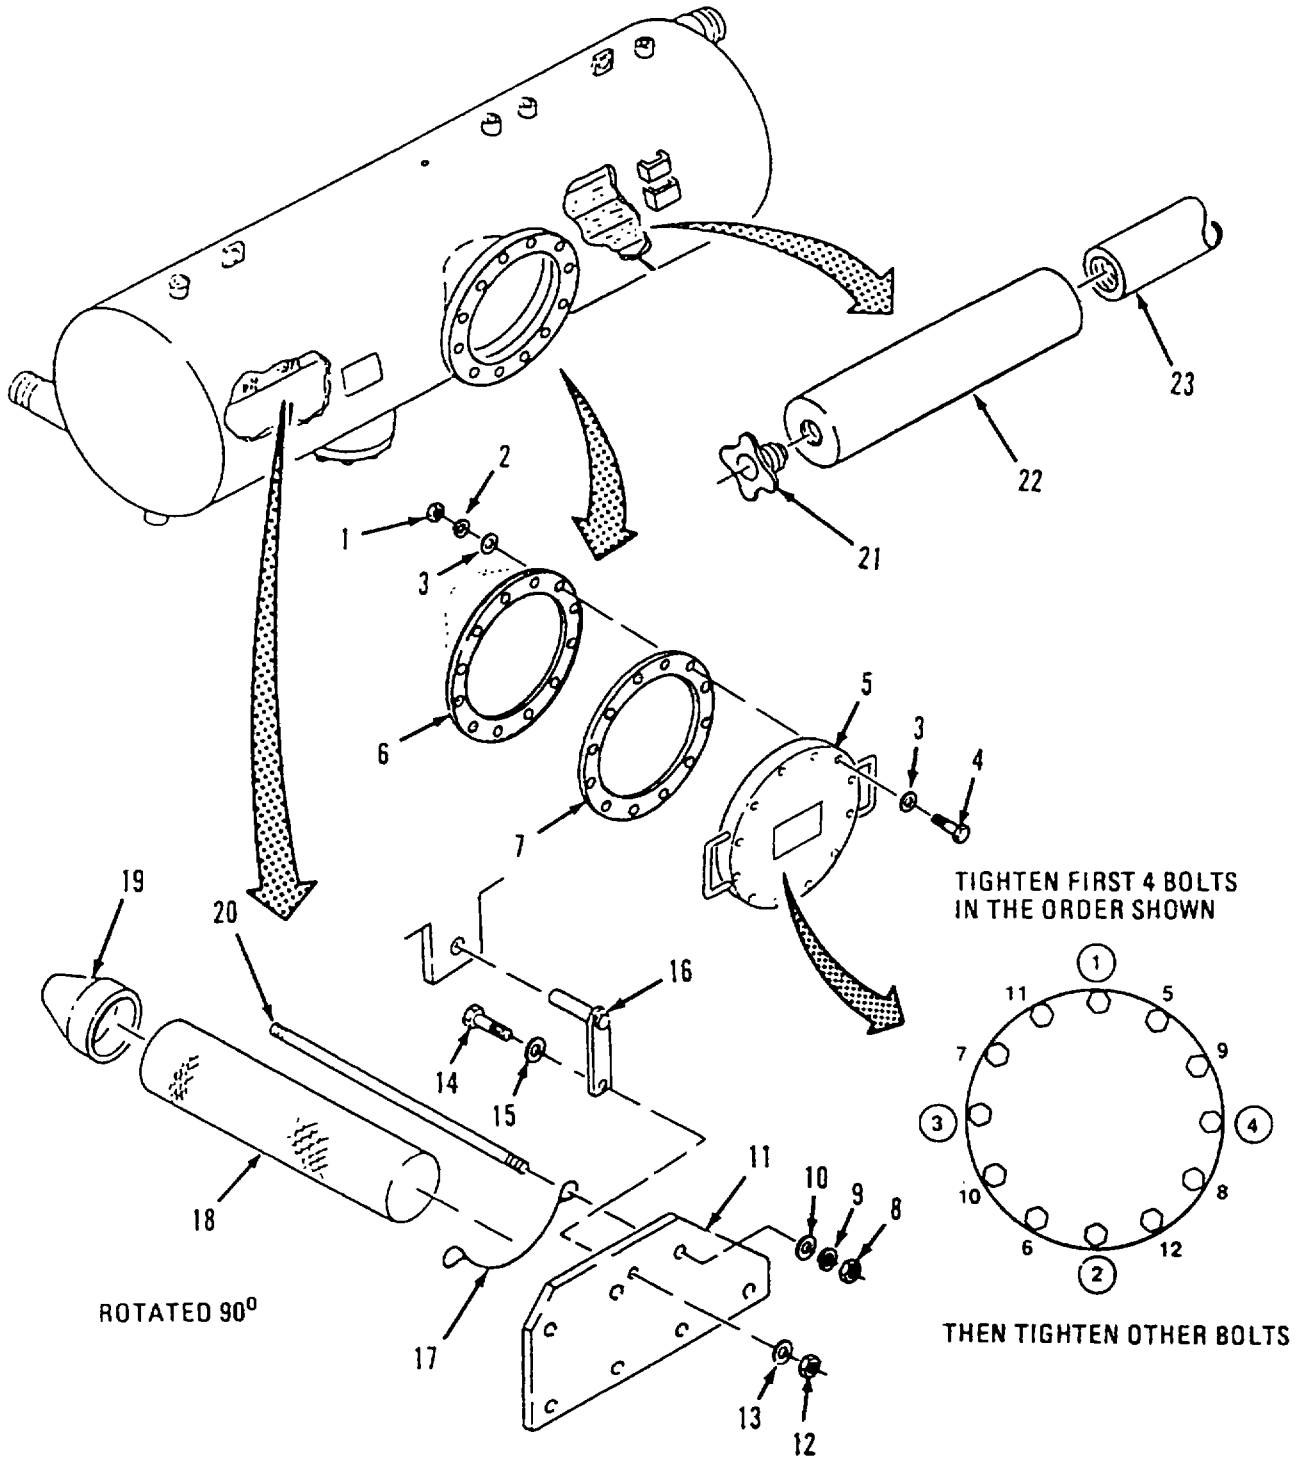

Figure 4-16. Spider Plate and Filter Elements Installation.
- d. Installation Refer to figure4-16.
- (1) Install 15 new filter elements (22) onto guide pipes (23), starting with the farthest element from the access port.
- (2) Secure filter elements (22) on guide pipes (23) with retaining plugs (21). Hand tighten plugs, being careful not to over tighten.
- (3) Install gasket (19) onto element (18).
- (4) Slant end of element with gasket (19) down and insert through access port.
- (5) Turn element (18) slightly to the right and lift into position on upper wall hole farthest from the access port.
- (6) Slide element (18) to the right until it fits into the outlet hole in the tank.
- (7) Hold up end of element (18) and install wire support (17) on rod stays (20).
- (8) Install next element (18) on top row and install other end of wire support (17).
- (9) Install remaining three elements(18),with gasket end (19) in lower row of holes, starting farthest from access port Install remaining wire spacers (17).
- (10) Insert guide rod (16) in hole on tab hole inside of tank.